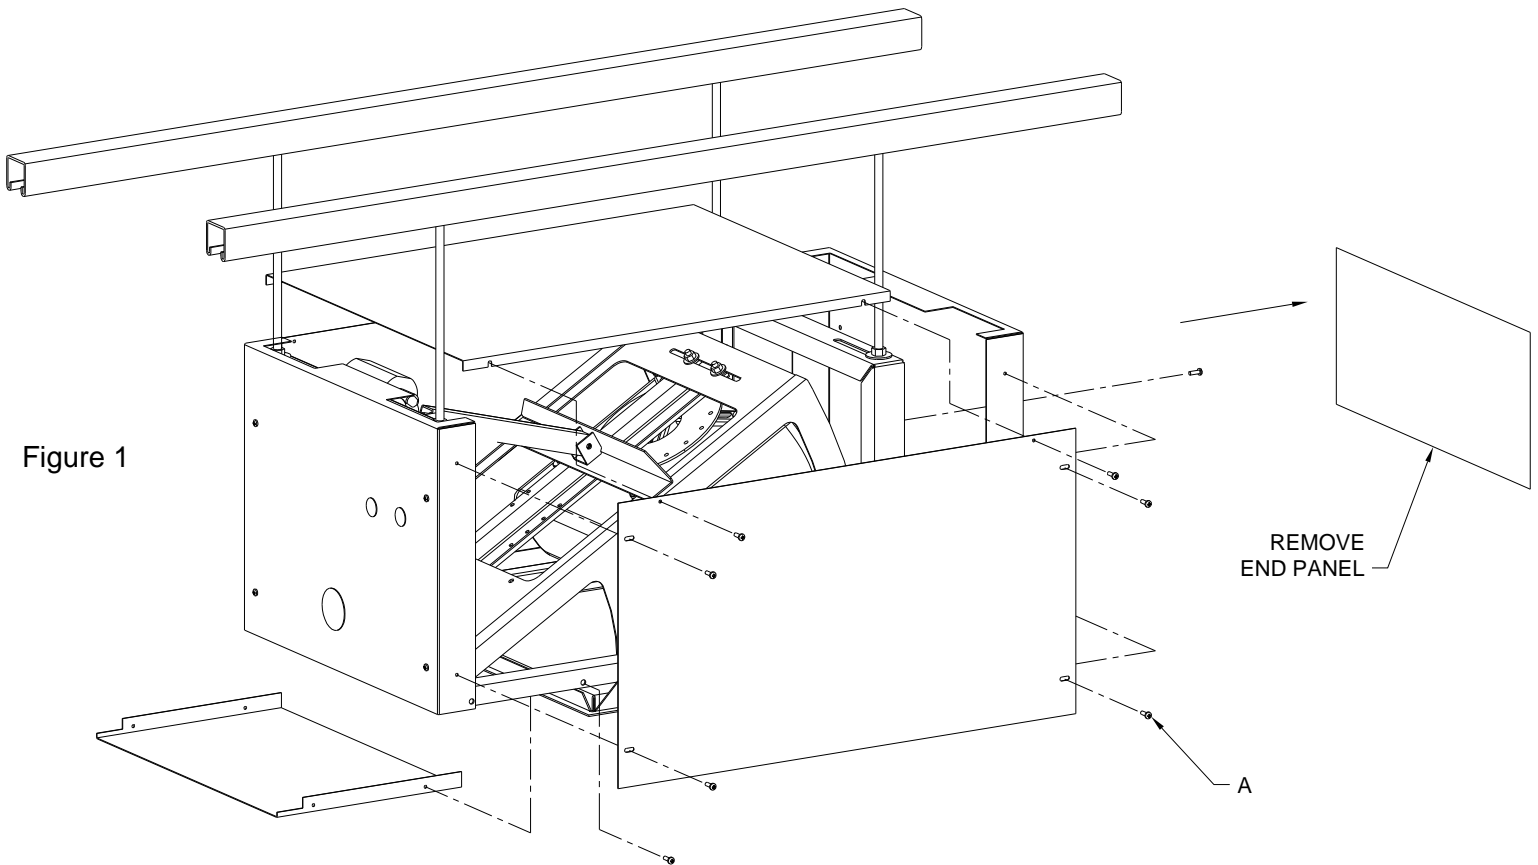

Figure 1
2. Install Plenum Cover Bottom first. See Figure 1.